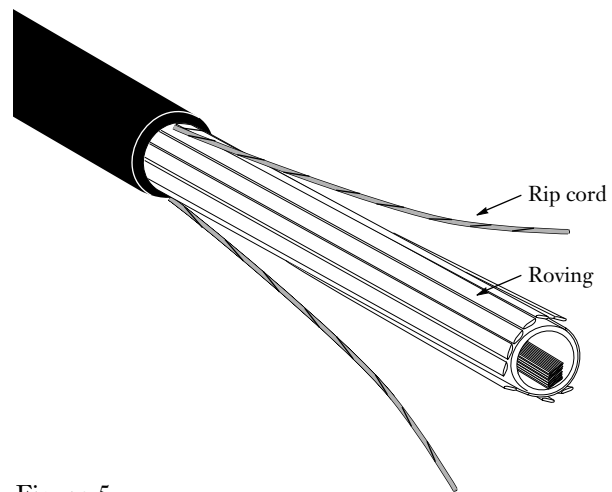

Figure 5
4.4 Remove the section of sheath to expose the rip cords and fiber glass rovings (Figure 5).